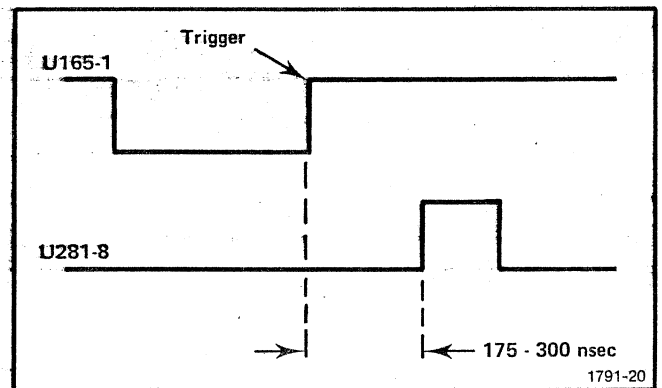

Fig. 4-2.
5. Arm the Tablet with ESC ! 6, then place the terminal ON LINE and place the pen in presence. Connect an oscilloscope probe to U281 pin 8. Positive trigger the oscilloscope on U165 pin 1. The positive pulse that occurs on U281 pin 8 must occur 175 to 300 ns (200 ns nominal) after the oscilloscope triggers. This pulse is affected by C394, R392, CR391, and U281C (see Fig. 4-2).